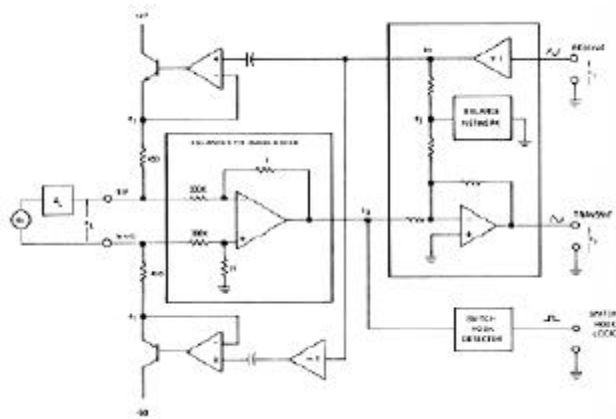

Fig.27.3 Battery feed and hybrid with current source and OP amp.
- current source and OP amp (Fig.27.3)